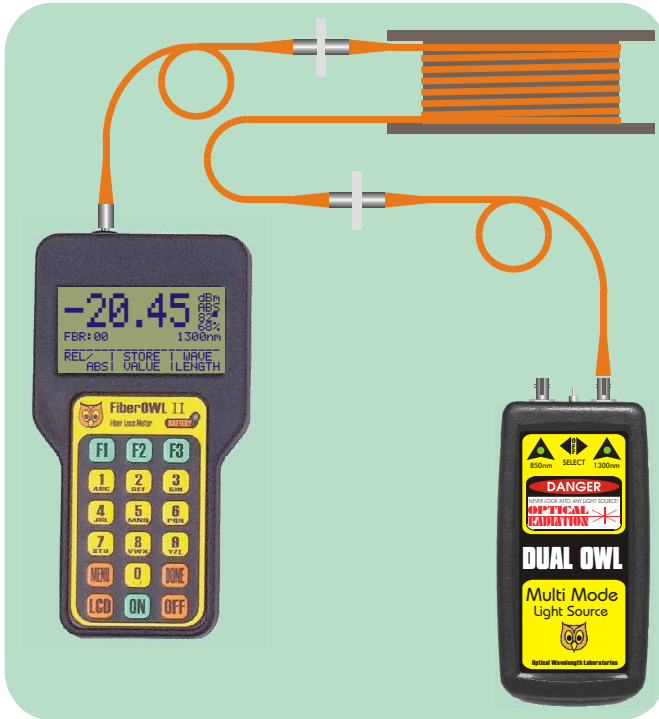

Figure 2 - Testing a link
Step 1 - Without disturbing the connection to the light source, remove both patch cords from the barrel adapter, and attach the power meter and light source to the fiber link as shown in Figure 2.